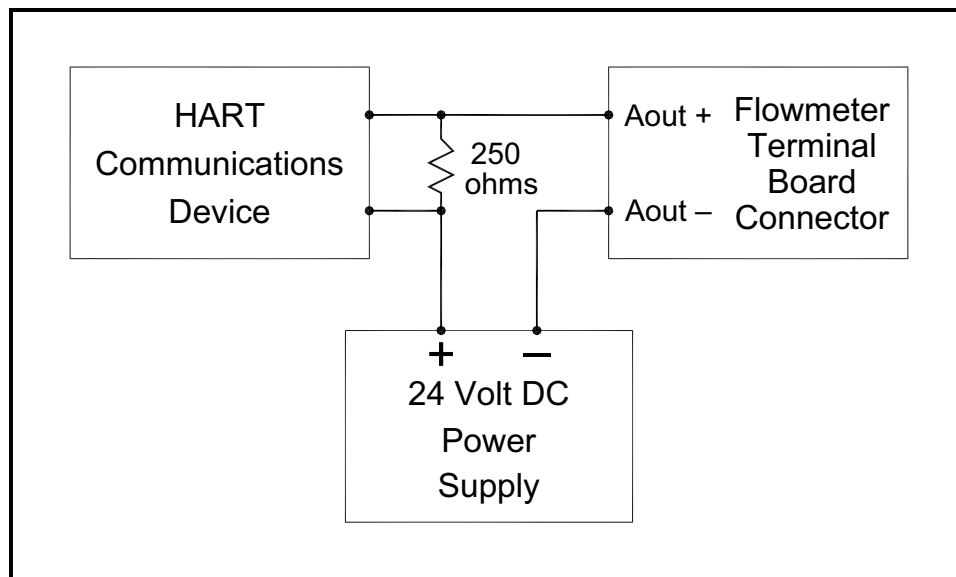

Figure 46: HART Wiring (Ext. Supply/Passive Mode)
1. Interconnect the HART interface and the HART device as shown in Figure 46 below.